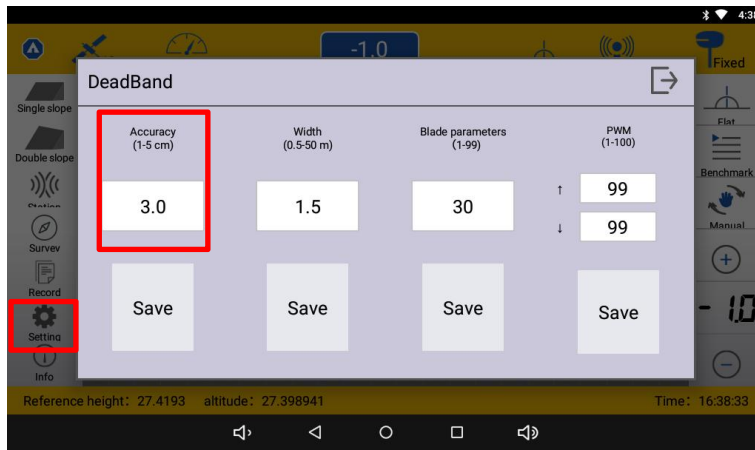

Figure 50
- Enter the accuracy adjustment in Settings and adjust the accuracy to 1.5—2.5cm. (Figure 50)